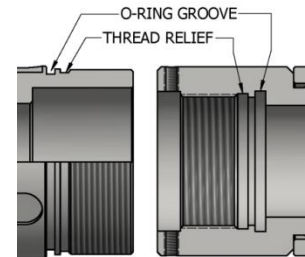

Fig. 2
**CAUTION4:** To ensure tool operates properly, install o-rings in o-ring grooves **NOT** thread reliefs unless stated otherwise (Fig. 2).